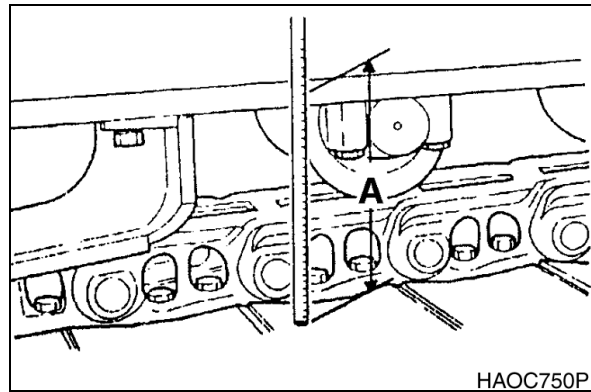

Figure 2
2. Measuring the distance (A, Figure 2) between the bottom of the side frame and the top of the lowest crawler shoe. Recommended tension for operation over most types of terrain is 320 - 340 mm (12.60 - 13.38 in)